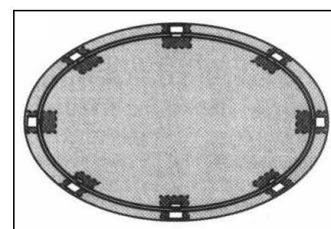

fig. 7
a) Tiles are optional. When the pool is placed on the ground, the tiles must be placed on motherboards T1 (ref. 570), one per each of the vertical columns of your pool. It is recommended a 30x30 cm tile, one tile per column.
b) Place temporarily the bottom blue curved guides (PCA) and T1 base around the plates of the circle, fig.7. Each motherboard will indicate where to place the tiles. Make a mark on the floor next to each of the plates.